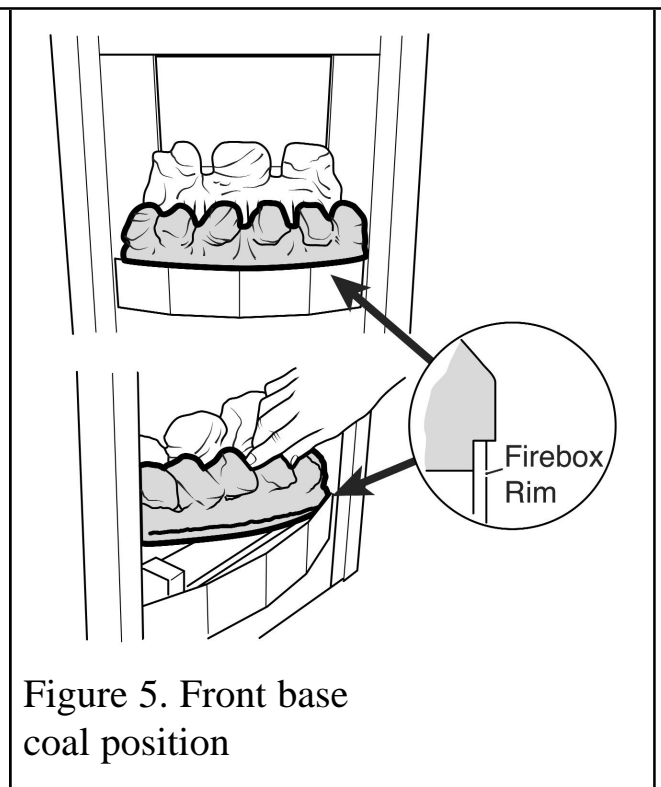

Figure 5. Front base coal position
2. Place the front base coal in the firebox with its bottom front locating over the front rim of the firebox. Pull the coal forward so that it locates immediately behind the front rim of the firebox. (See figure 5). The front base coal will touch the rear base coal as it is located.